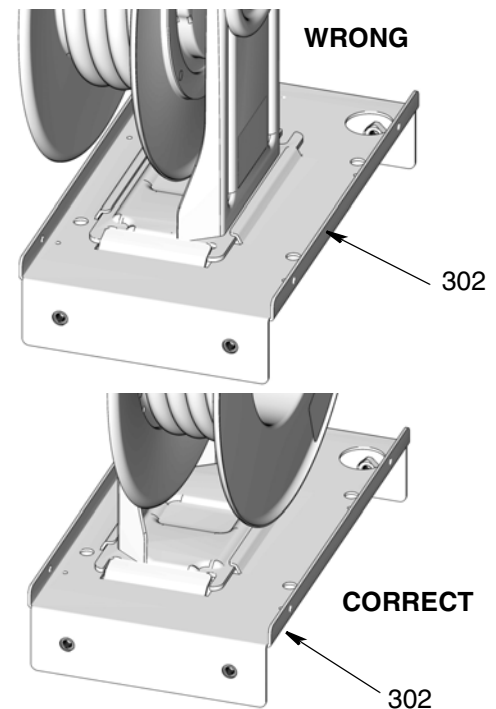

FIG. 5
5. Position reel on base (302), verifying reel is correctly centered on base as shown in FIG. 5
**NOTE: NOTE:** Although the reel can be installed on the reel base (302) with the guide arm positioned on the left or the right side, there is only one correct installation position. When the reel is correctly installed in the reel base, the reel will be centered over the base. See FIG. 5 to verify you have installed the reel in the reel base correctly.